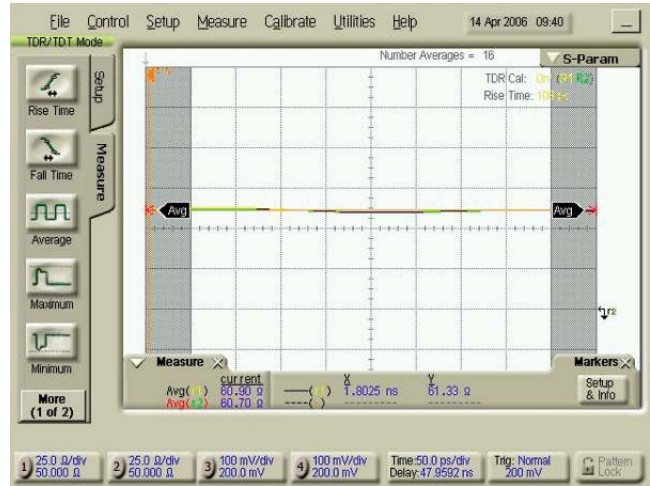

Figure 5. Common Mode Impedance
- 3 Using the average measurement function measure and note the average impedance for response 1 – line 2, and response 2 – line 3 (See Figure 5). That is the average even mode impedance for each line.
- 3 Using the average measurement function measure and note the average impedance for response 3 - line 5, and response 4 - line 6 (see Figure 5). That is the average even mode impedance for each line.